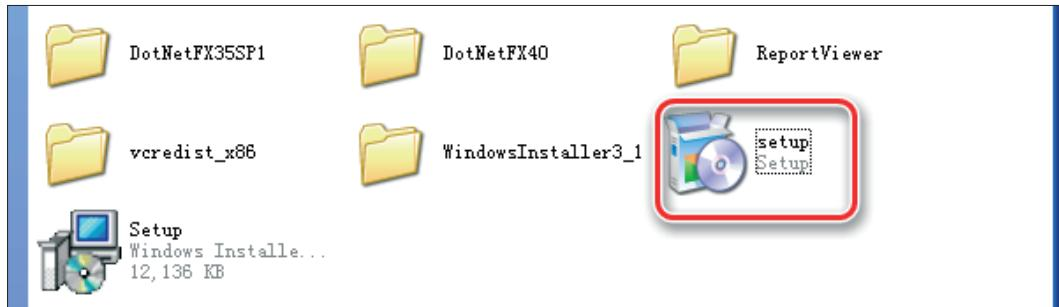

Figure 2-13
2. To install with "One-click", click the setup.exe. See Figure 2-13: